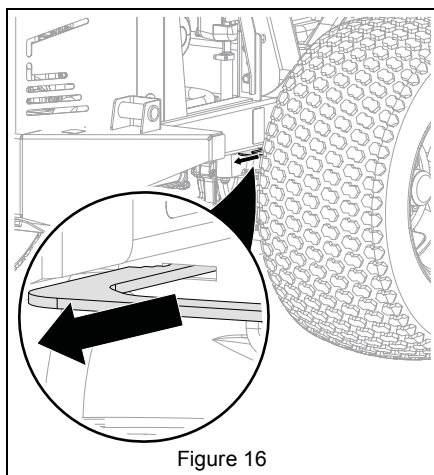

Figure 16
2. Pull both transaxle bypass levers out into bypass position. See Figure 16.